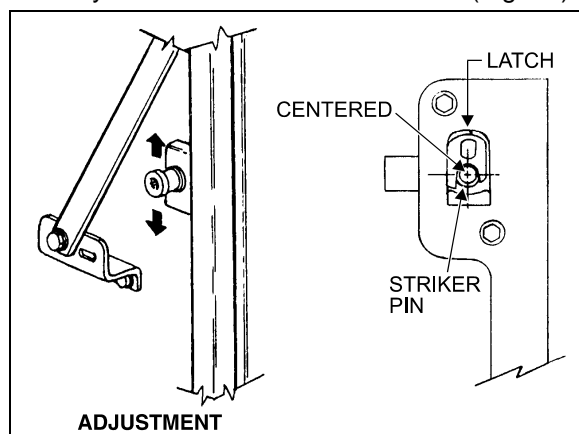

FIGURE 63: BAGGAGE COMPARTMENT DOOR 18068
5. Install both striker pins, bring the door close to them, and adjust the height of pins so they are well centered with latches (Fig. 63).